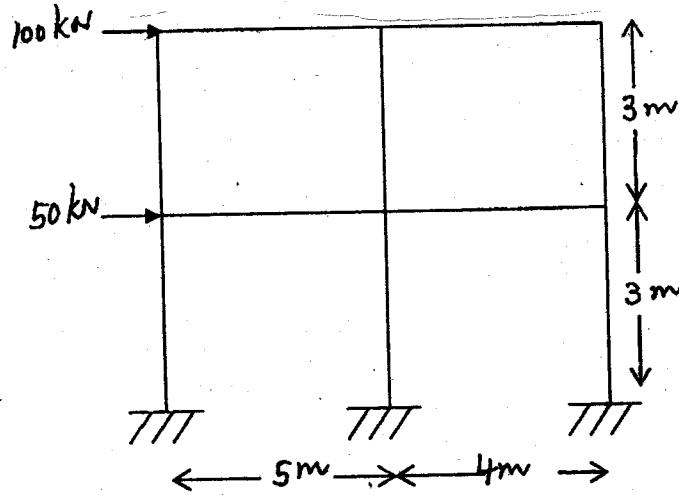

Figure 2
13. Analyse the plane frame shown in Figure 2 by cantilever method :